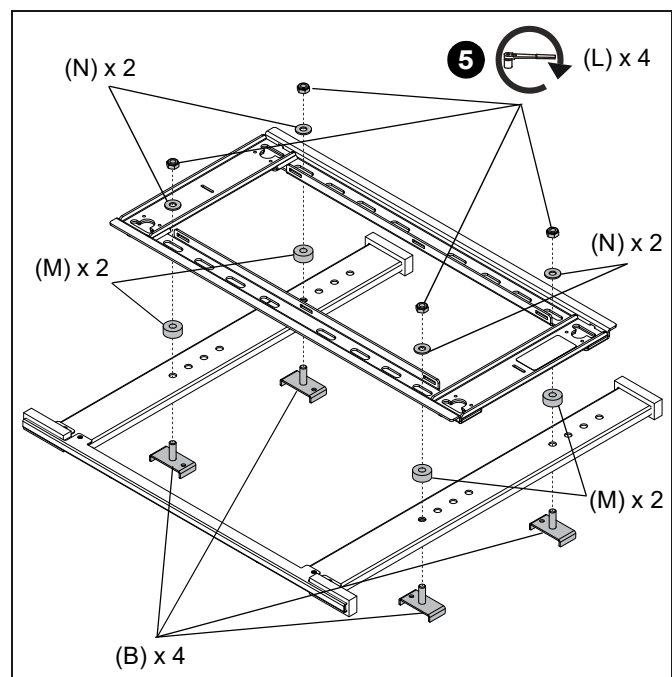

Figure 3
5. Install the display wall mount bracket to the assembled frame using four stud plates (B), four spacers (M), four 1/4" washers (N), and four lock nuts (L). (See Figure 3)